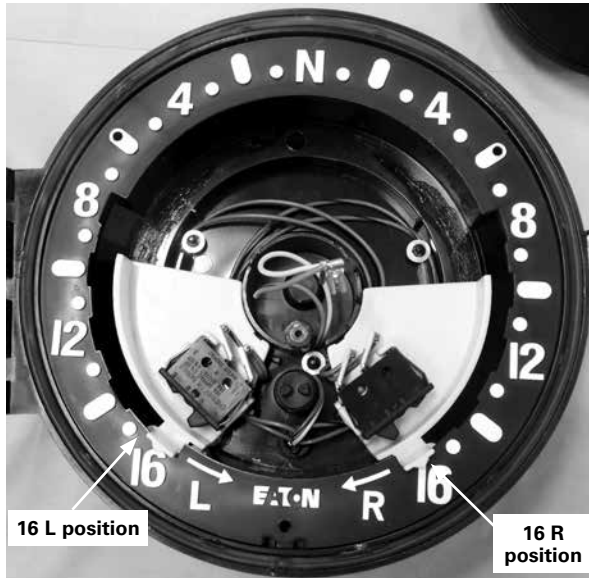

Figure 9. Positioning of the limit switch assemblies shown with number dial for reference.
3. Locate the limit switches at the 16R and 16L positions. See Figure 9.